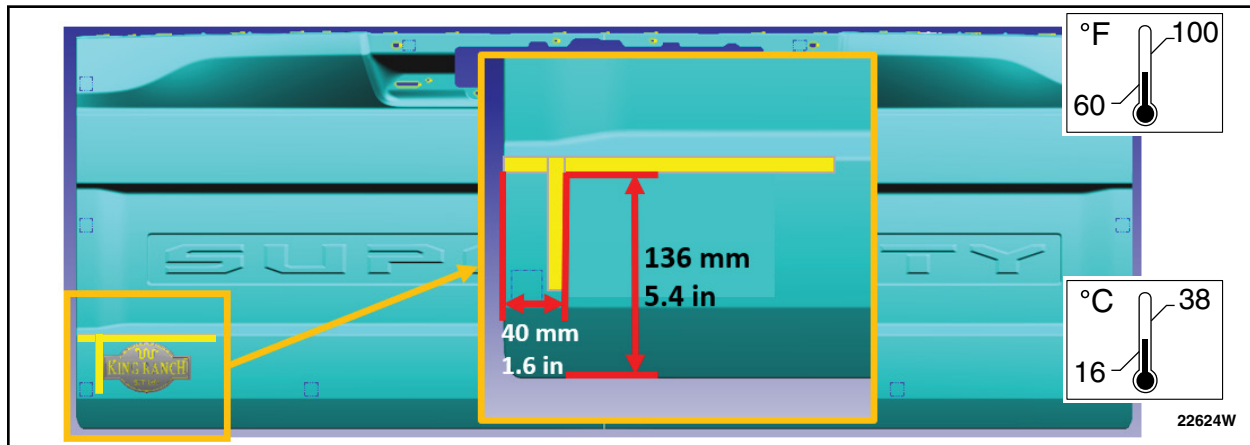

FIGURE 10
39. Measure and apply locating masking tape to the tailgate outer panel. See Figure 10.